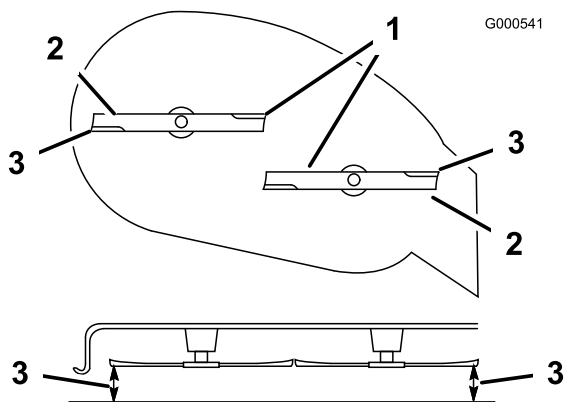

Figure 41
5. Carefully rotate the blade(s) side to side (Figure 41).
6. Measure between the outside cutting edges and the flat surface (Figure 41). If both measurements are not within 3/16 inch (5 mm), an adjustment is required; continue with this procedure.